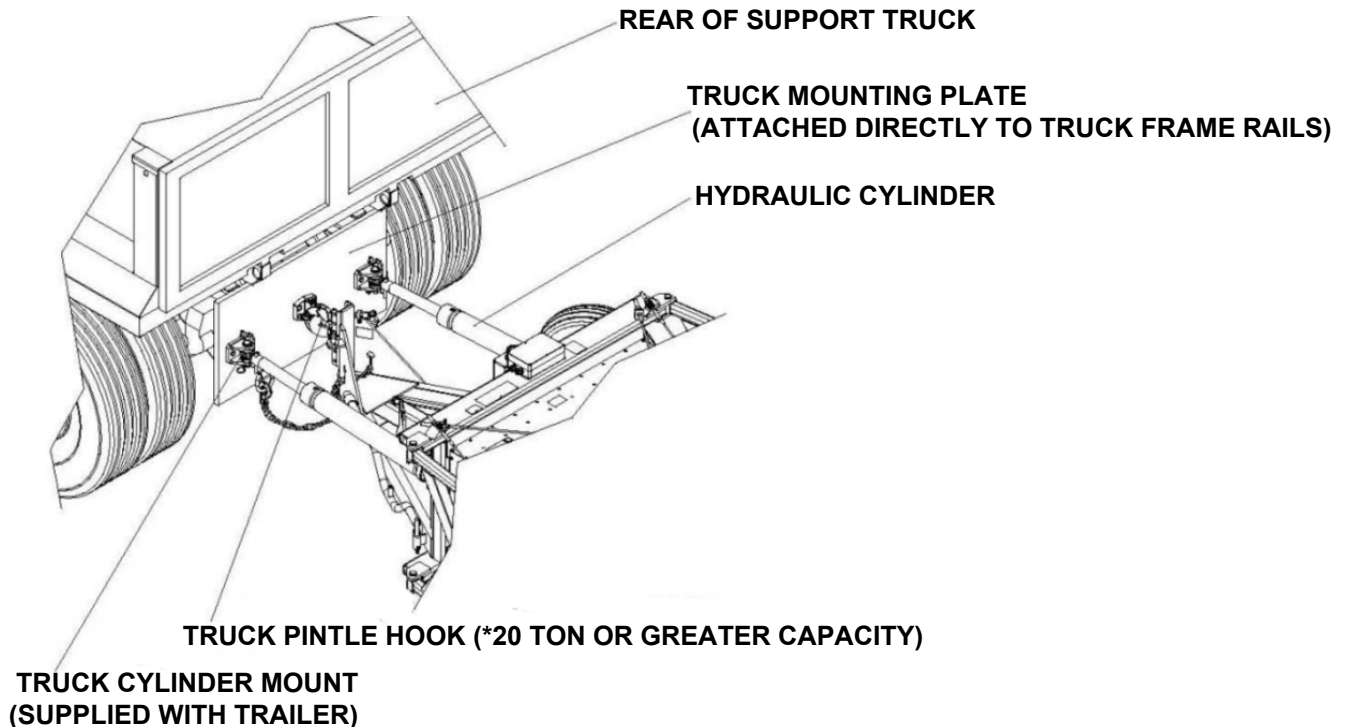

Figure 3
1. It is the operator's responsibility to ensure hydraulic cylinders are attached to the truck hydraulic brackets and locked in place with the hairpin cotter pins when the SST[®] is in the work zone or being used for protection (Figure 3).